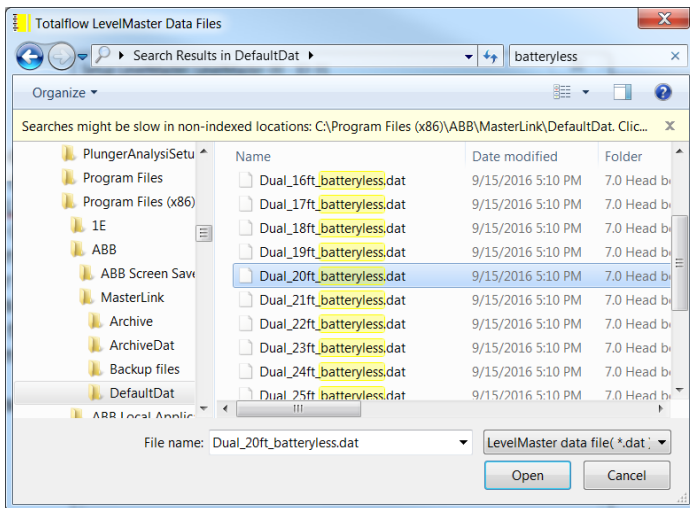

Figure 6: Locating the correct configuration file
4. Locate the file for the correct length of sensor and click **Open**. For example, for a 20 foot sensor, select the "Dual\_20ft\_batteryless.dat" file (Figure 6).